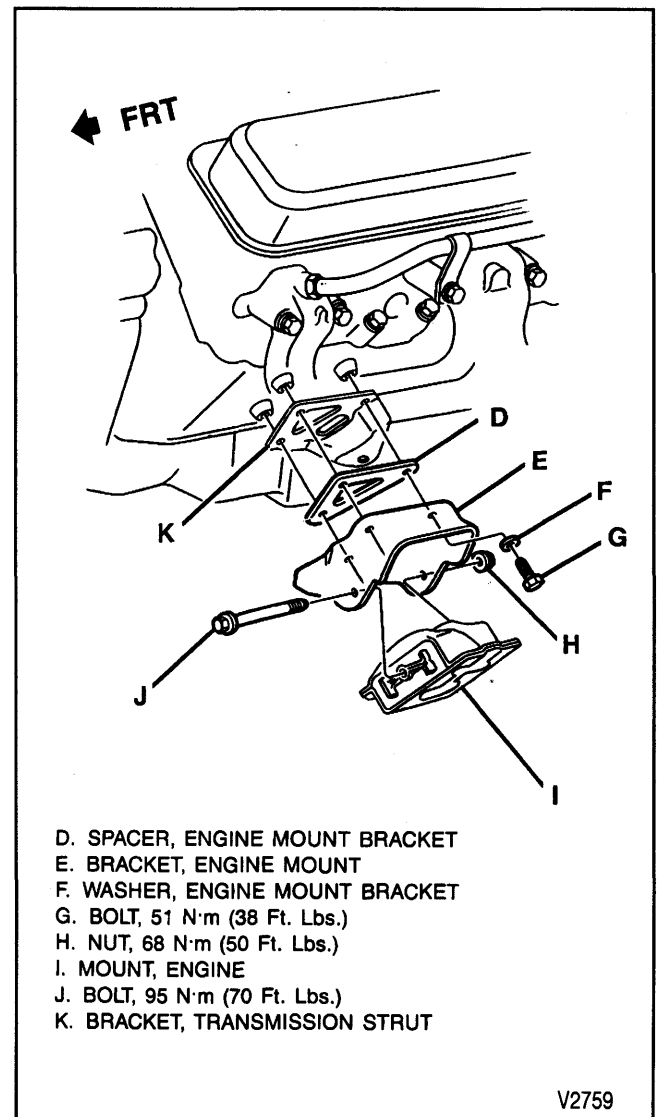

Figure 40—Front Engine Mounts to Brackets
- Through-bolt nut to specifications. Refer to figure 40.